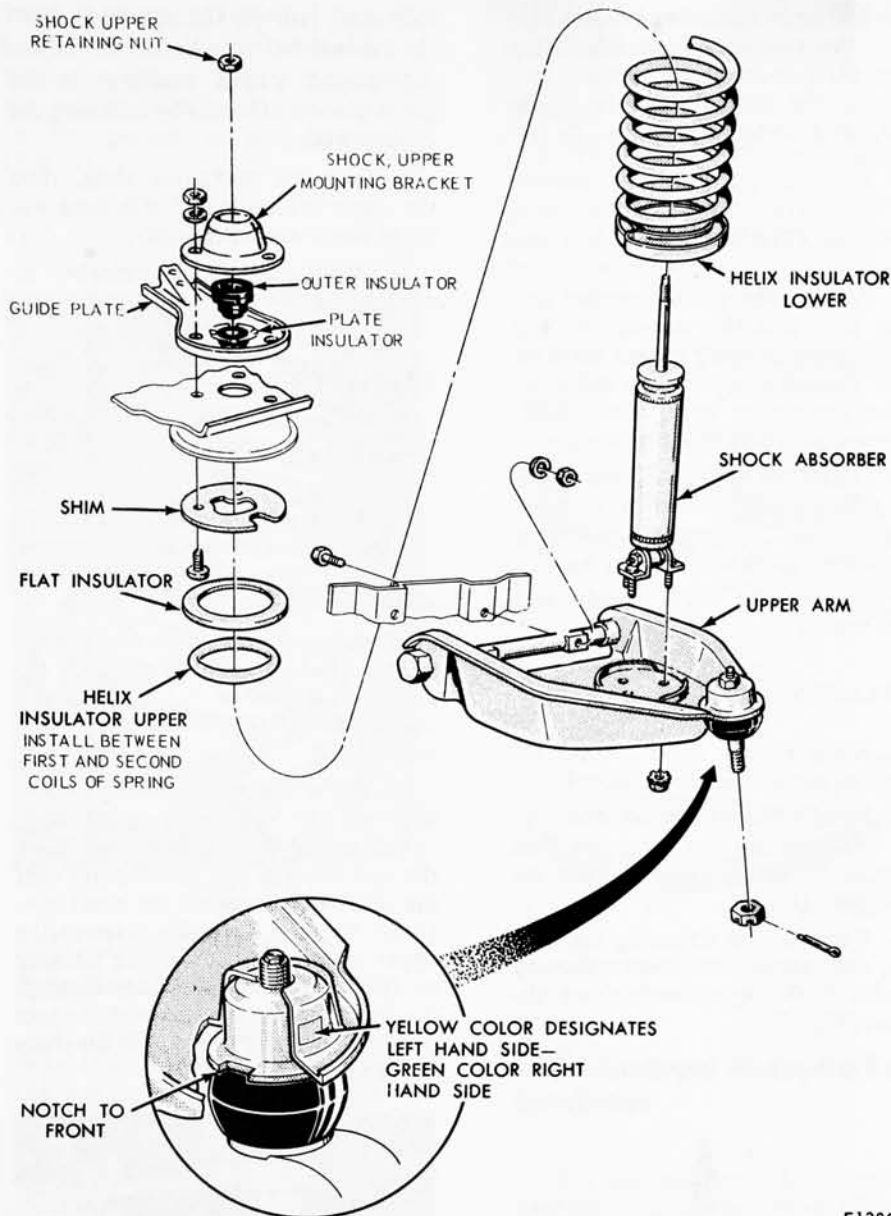

FIG. 4 -Upper Arm, Shock Absorber and Spring Connections
8. Position the replacement ball joint in its recess in the upper arm so that the ball joint notch faces the front of the car (Fig. 4). Install the retaining nut on the upper stud and draw the ball joint into place by tightening the nut.